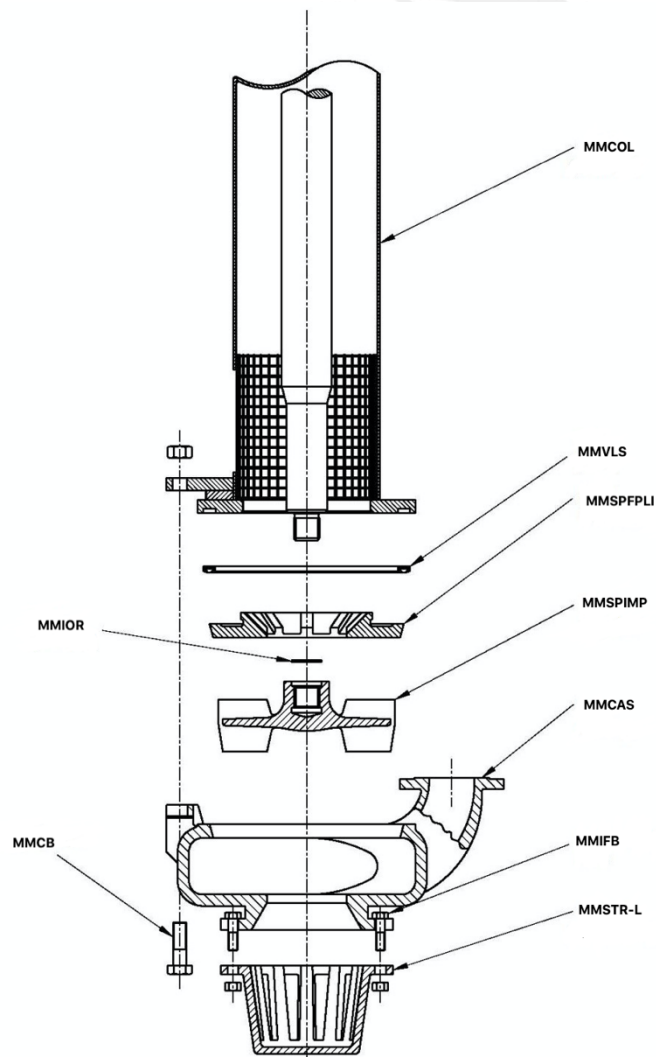

Figure 3 - Pump Casing Assembly
4.2.1 Fitting Back Liner, Impeller, Casing and Suction Strainer (Ref Fig 3)
- VII. Using a hoist, lift Casing and position on end of Column, with orientation as shown in Figure 3. Check that the Impeller turns freely, without contacting the Casing surfaces. If necessary, add or remove Spacers (MMSPA) between Column flange and Bearing Assembly. Fit three Column Bolts to fasten Casing to Column flange and evenly tighten.